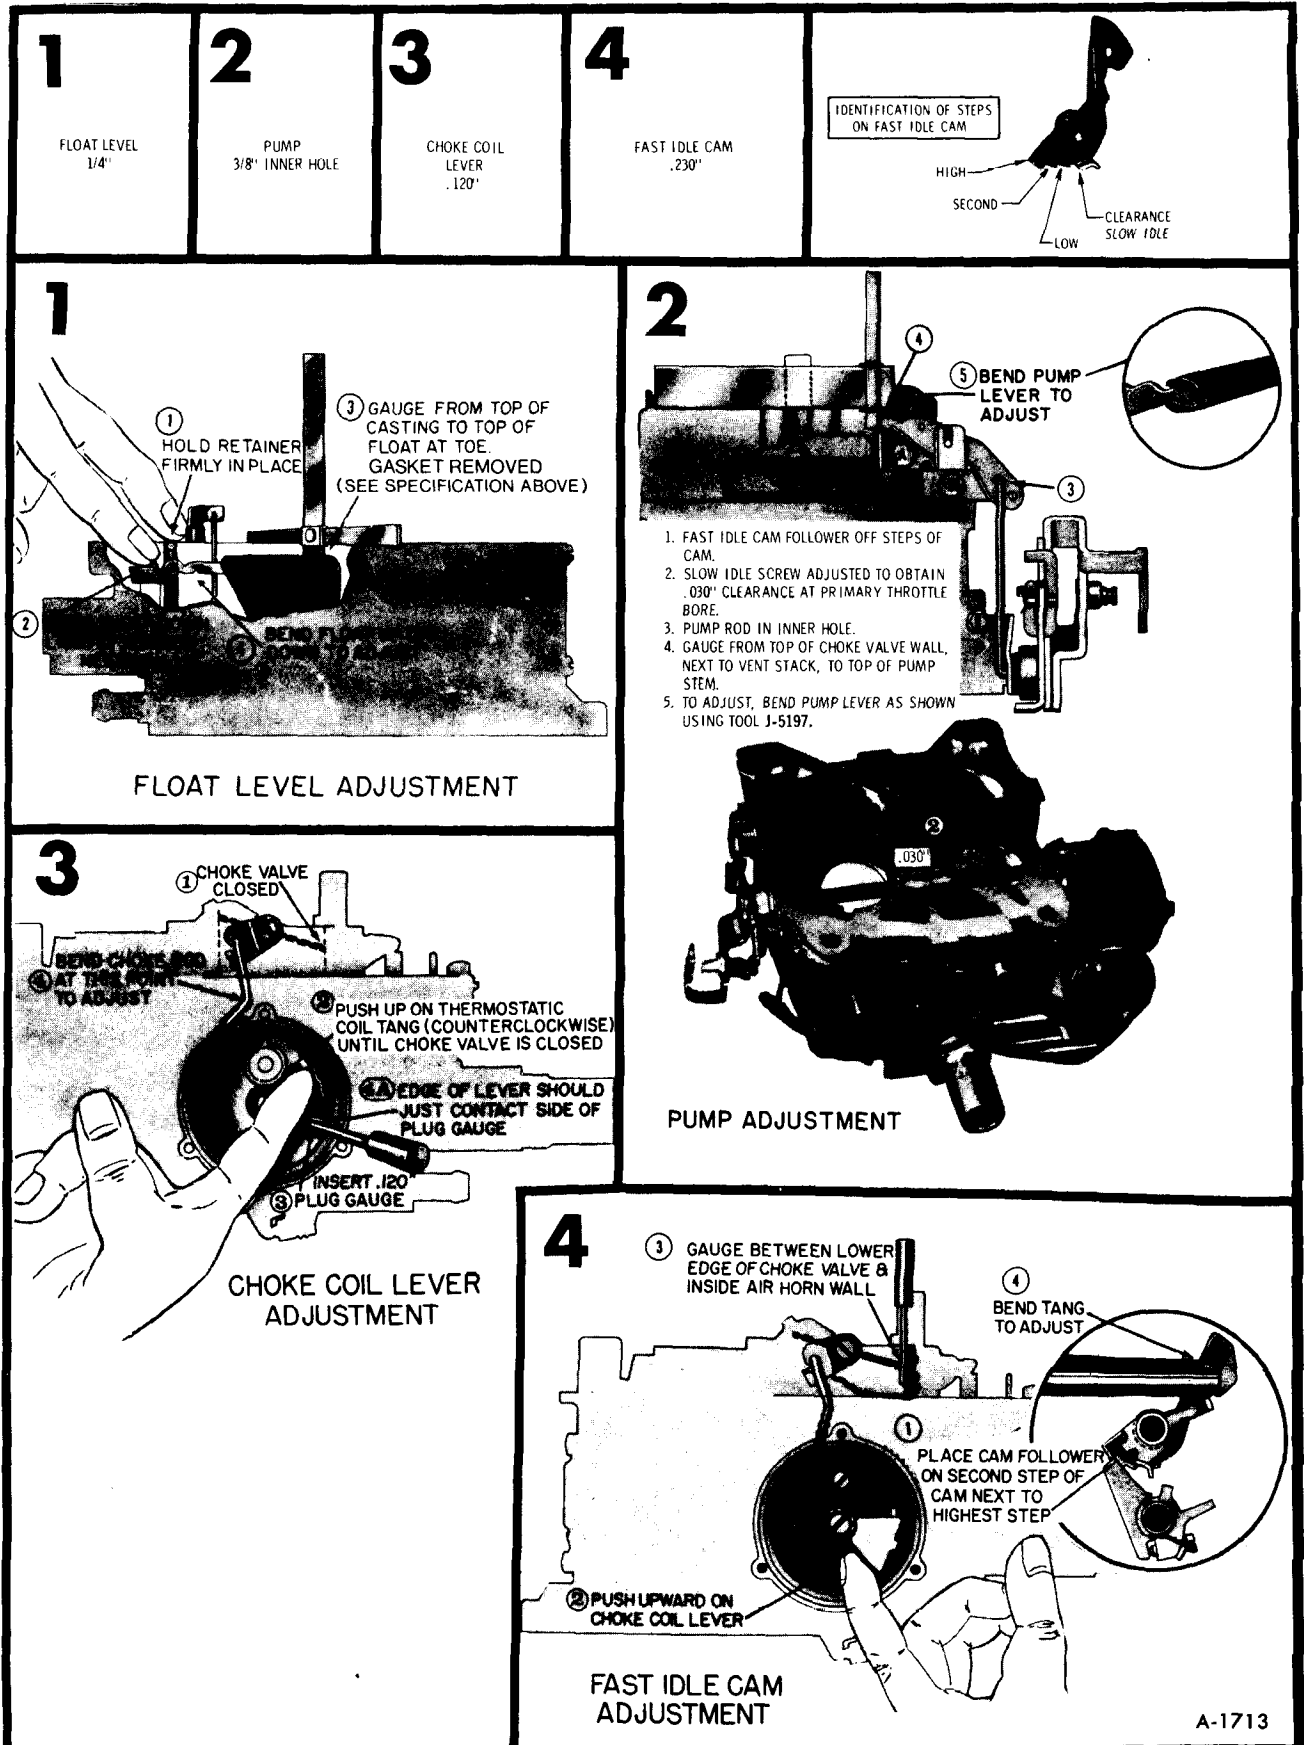

Figure 28—Carburetor Adjustments
**NOTE:** The thermostatic coil lever inside the choke housing has to be indexed properly before installing the choke thermostatic coil cover baffle and gasket assembly. Refer to adjustment charts (figures 28, 29, 30 and 31) for adjustment information.